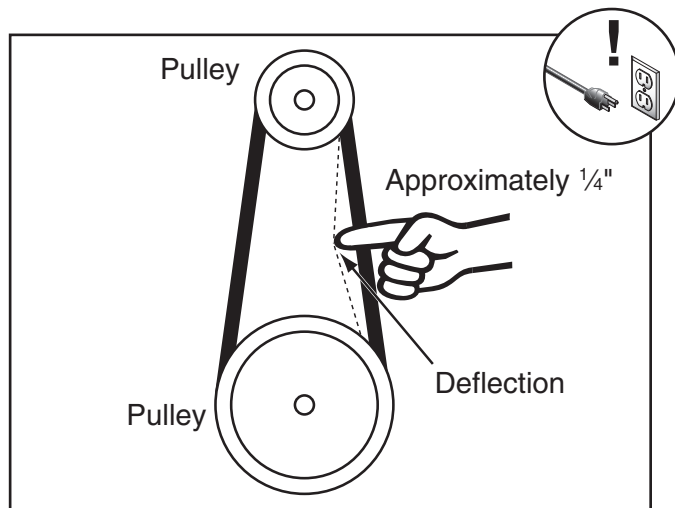

Figure 51. Checking belt tension.
3. Check belt condition and deflection. The belt is properly tensioned if there is approximately $\frac{1}{4}$ " deflection. Deflection is checked by pushing belt with moderate pressure, as shown in **Figure 51**, and noting how much it moves.